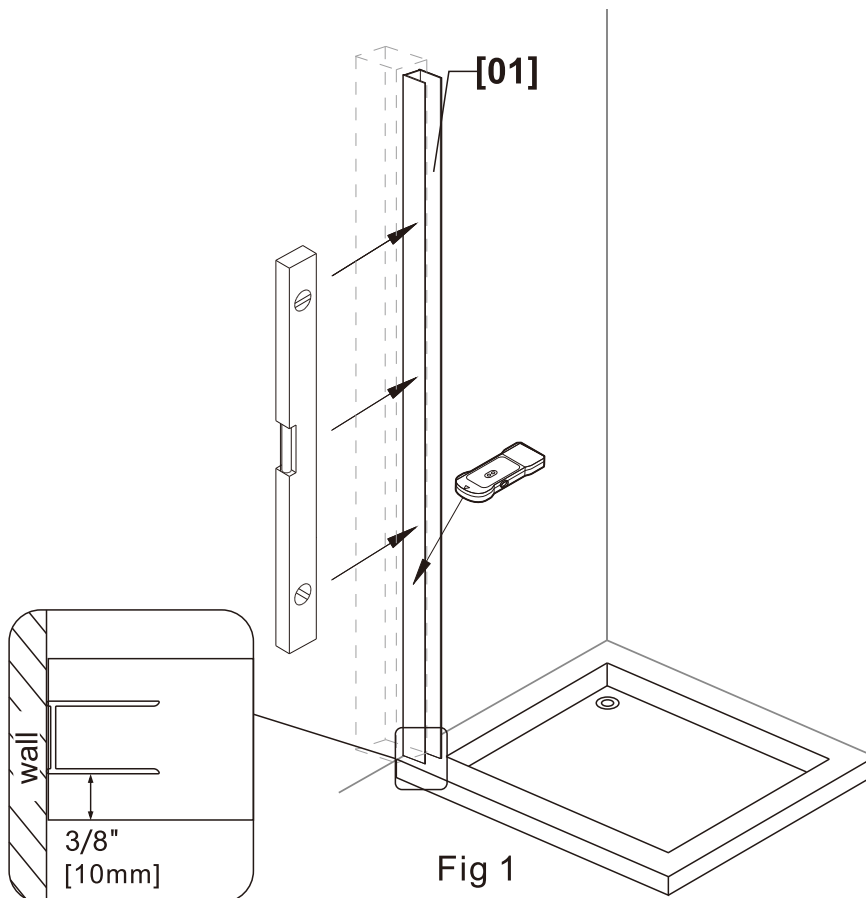

Fig 1
1. This shower door must be mounted to a stud. Minimum threshold space is required. **IMPORTANT:** Using a stud finder, ensure the wall intended to hold the door has a stud at the installation point. If there is no stud in the shown area, we recommend employing a qualified contractor to install one. (Fig 1)
3. Using a level, position the **Wall Post [01]** on the threshold (Fig 1) .